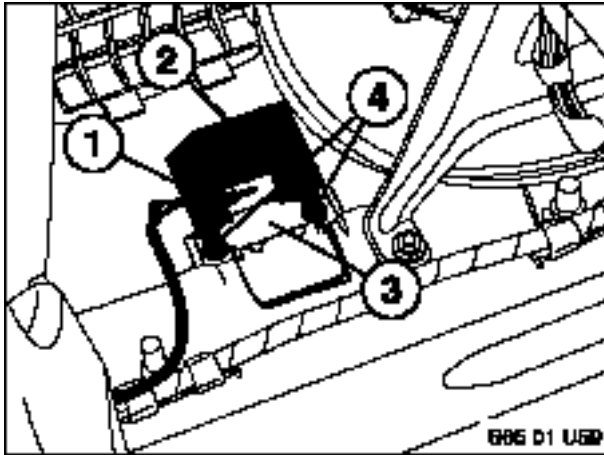

Figure 8
2.6 See Figure 8. Connect 6-position connector (1) to inclination sensor (2).
2.7 See Figure 8. Install sensor/bracket assembly (2) to vehicle body bracket (3) as shown.
- 2.8 See Figure 8. Secure sensor/bracket assembly (2) to vehicle body bracket (3) with pair of M6 hex head bolts with captive flat washer (4).